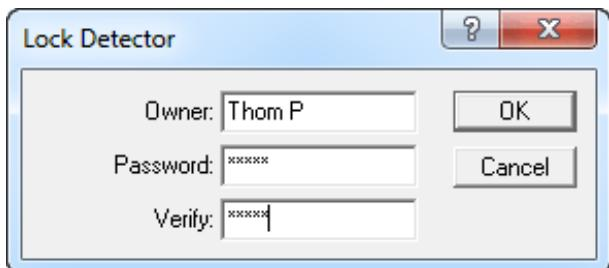

Figure 216. Enter Owner and Password to Lock a Detector.
- **Locking** — Select the **Lock/Unlock** command to display the dialog shown in Fig. 216. Enter the **Owner** name. Then enter a password in the **Password** field, and re-enter it in the **Verify** field (the two entries must agree). Click on **OK**. The password is not case-sensitive (that is, uppercase and lowercase letters are treated the same).